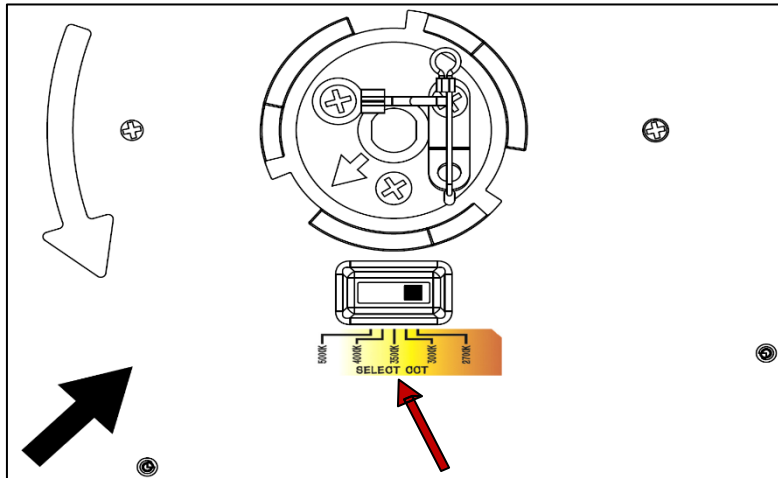

Figure 3
3. **Before Installation:** On the backside of the fixture, find the switch for selecting the color temperature. **Choose Your Setting:** Position the switch to the desired LED color temperature shown in *Figure 3*: 2700K (soft); 3000K (warm); 3500K (neutral); 4000K (cool); 5000K (daylight).